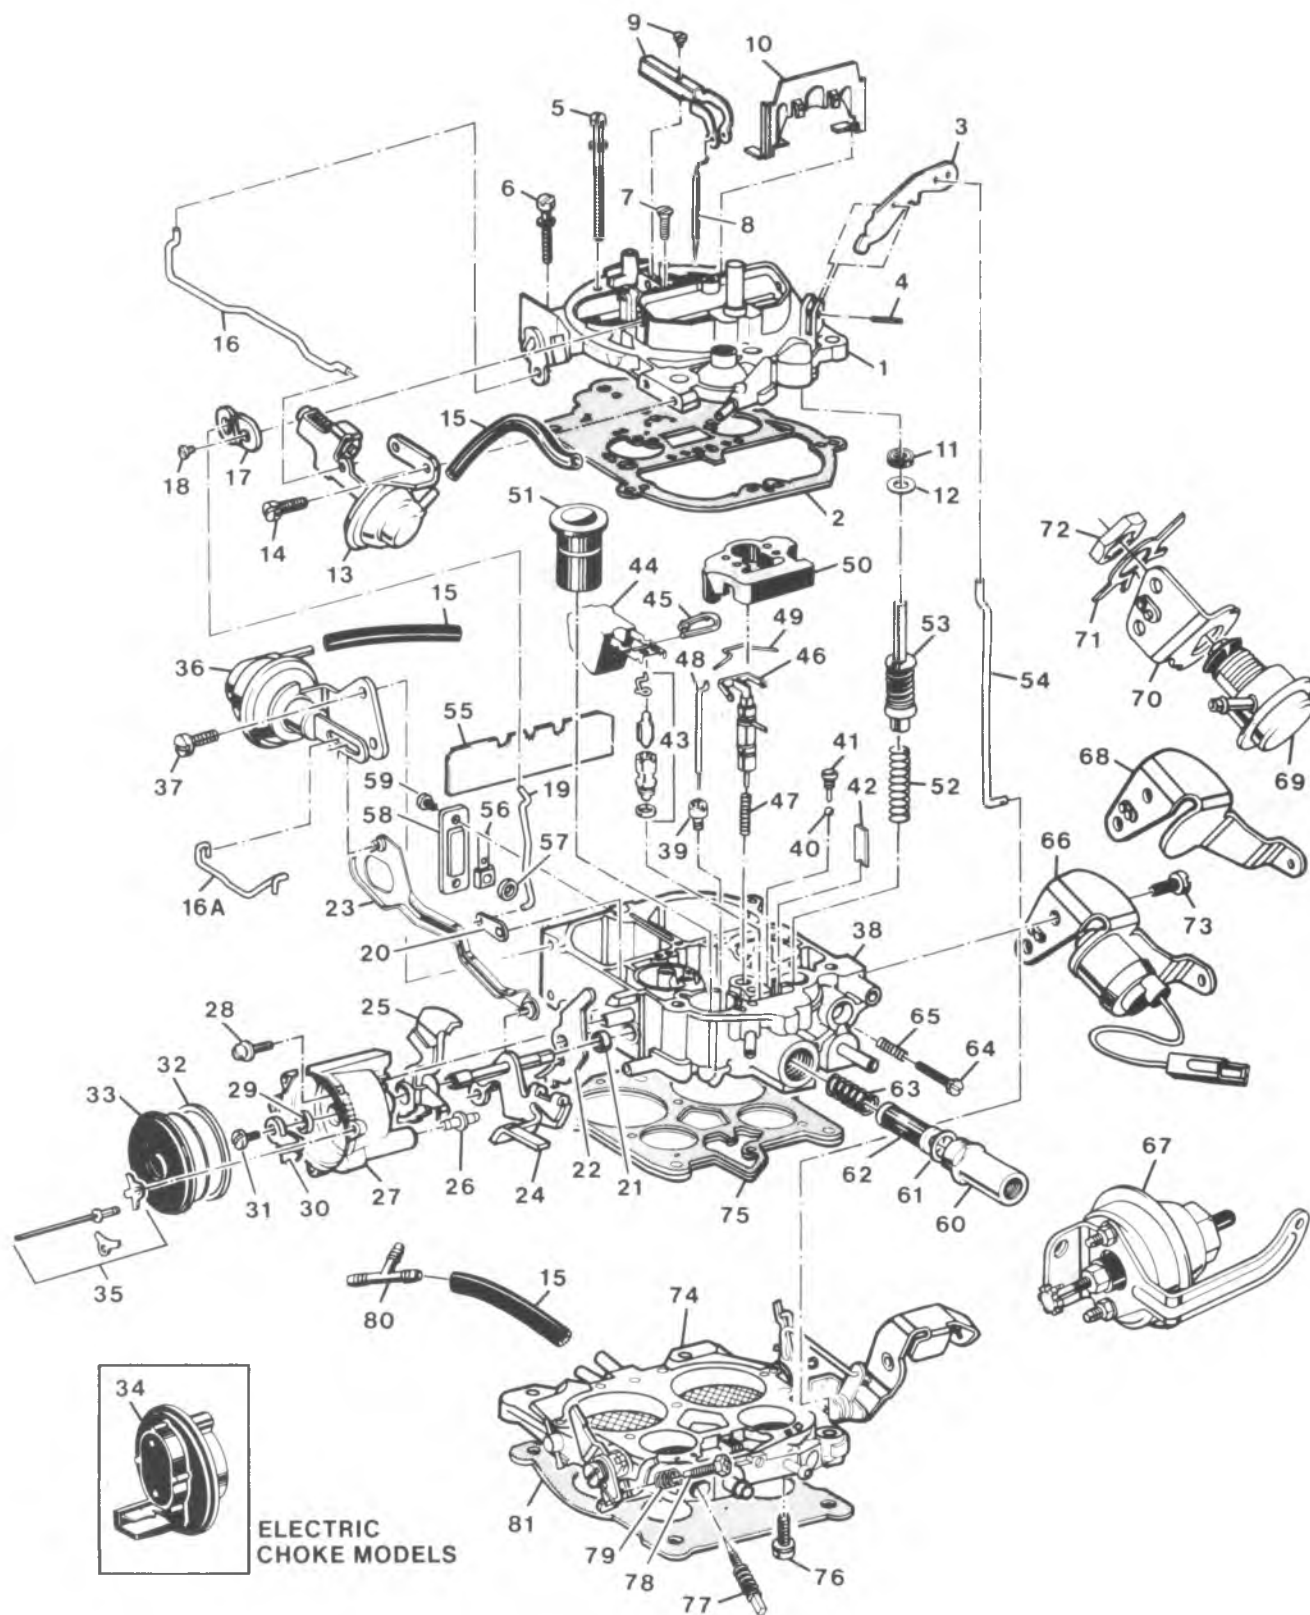

Fig. 6C4-12--M4MC/M4ME Carburetor Exploded View
4. Using tool J-25322, drive small roll pin (pump lever pivot pin) inward just until pump lever can be removed from air horn. Then remove pump lever from pump rod (Fig. 6C4-14). Note location of pump rod for reassembly. Use care when driving small roll pin to prevent damage to pump lever casting bosses on air horn.
6. Remove thirteen air horn to bowl attaching screws; the two counter-sunk screws (Number 1 and 2) are located next to the venturi (Fig. 6C4-15). If used, remove secondary air baffle deflector from beneath the two center air horn screws (Numbers 3 and 4).
2. If used, remove pump plunger stem seal by inverting air horn and, using a small screwdriver, remove staking holding the seal retainer in place (Fig. 6C4-16). Remove and discard retainer and seal. Use care in removing the pump plunger stem seal retainer to prevent damage to air horn casting. A new seal